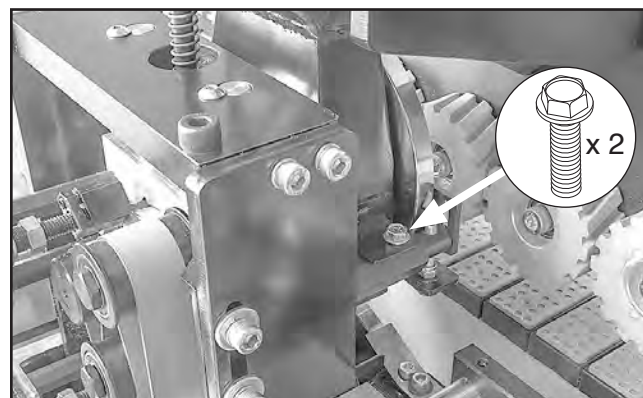

Figure 118. Location of upper trimmer dust shroud and flange bolts.
5. Remove (2) flange bolts, then remove upper trimmer dust shroud (see **Figure 118**).